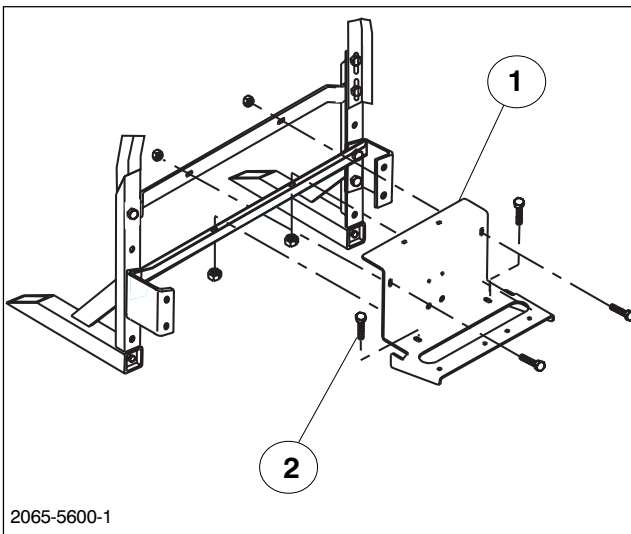

FIG. 6
6. Assemble Boom Valve Bracket to Angle Crossmember and Bar Valve Mount as shown in FIG. 6 with two (2) 5/16-20 x 3/4 Flange Bolts, two (2) 5/16-20 Flange Nuts, two (2) 5/16-18 x 3/4 Carriage Bolts and two (2) 5/16-18 Flange Nuts.